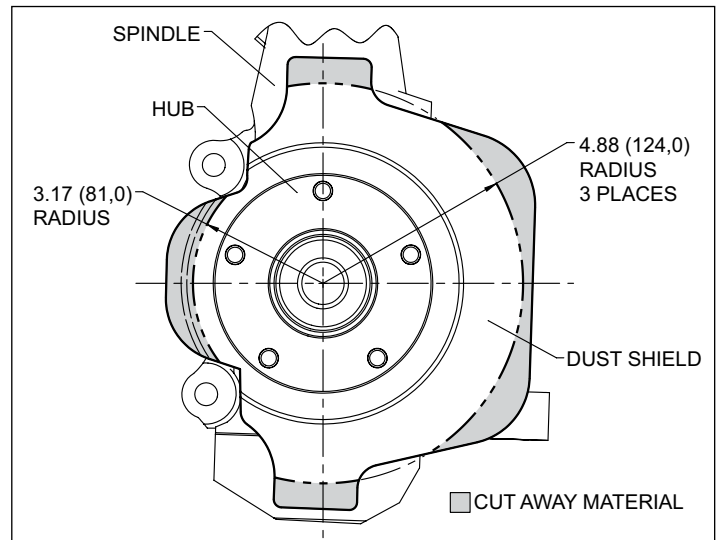

Figure 3. Dust Shield Modification
•The front dust shield needs to be modified (cut), as shown by the dotted lines/shaded area in Figure 3, to clear the new Wilwood rotor. **NOTE:** It is recommended that the dust shield be removed before modification, and the modification be performed by a qualified machine shop.